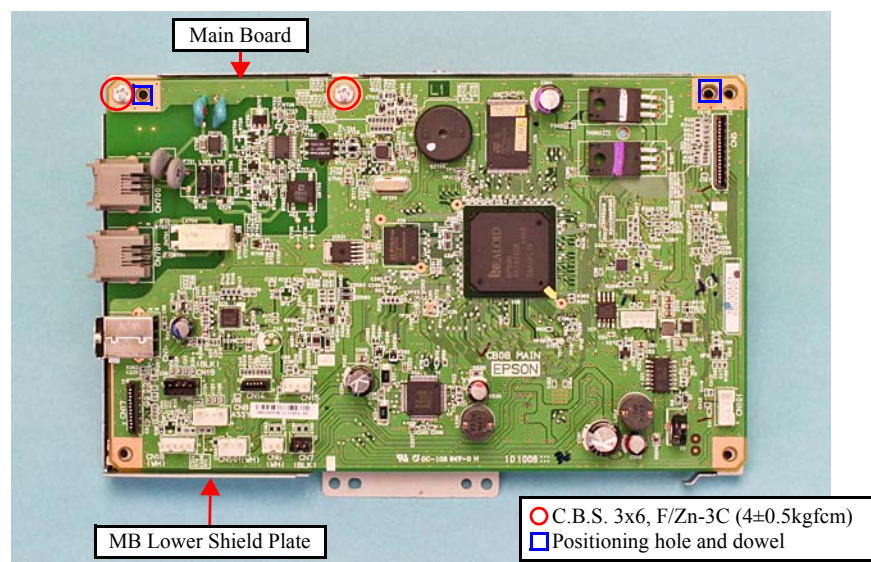

Figure 7-43. Removing the Main Board
- When installing the Main Board to the MB Lower Shield Plate, make sure to match the positioning holes (x2) to the dowels (x2) as shown in Figure. 7-43.